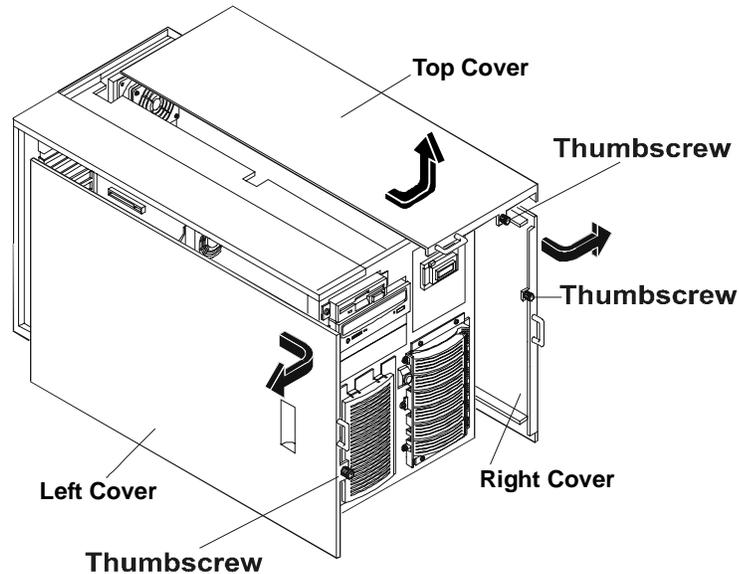

Figure 3-8. HP NetServer LH 6000 Covers
3. Remove the left cover by loosening the thumbscrew and then pulling the cover forward to disengage it. Lift it outward and away from the chassis (see Figure 3-8).
4. Remove the top cover by loosening the thumbscrew, pulling the cover forward and then slightly sideways to disengage it. Lift it up and away from the chassis (see Figure 3-8).
5. Remove the right cover by loosening the thumbscrew and pulling the cover forward to disengage it. Lift it outward and away from the chassis (see Figure 3-8).